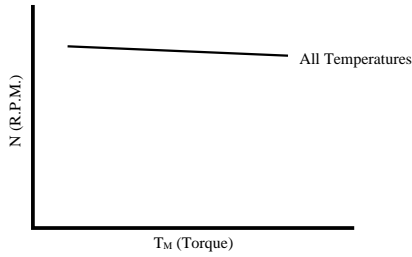

Fig. 3. r_1 Temperature Characteristics = r_a Temperature Characteristics
R_a is the copper coiled resistor of the motor and has the temperature characteristics of + 3,900r.p.m/ $^{\circ}$ C. Therefore, it is necessary to set the value of r_1 so that the relationship in the expression (7) will be satisfied at the minimum working temperature. The diffusion resistance r_3/r_2 in the IC has the flat temperature characteristics, and if the temperature characteristics of r_1 is adjusted to that of R_a , + 3900 r.p.m/ $^{\circ}$ C, the value of the second term ($r_1 r_2 / r_3 - R_a$) of the expressions (4) and (5) shows the flat temperature characteristics and the torque characteristics of the motor speed becomes constant without depending on a temperature. Fig. 2 and Fig. 3 show this relationship.